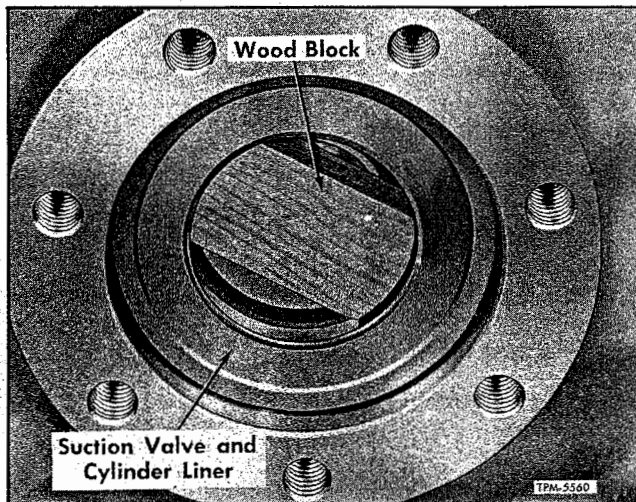

Figure 14—Removing Suction Valve and Cylinder Liner
1. Rotate the crankshaft until piston head is down about 2 inches from top, then place the wood block into cylinder. Rotate crankshaft to cause piston (17) to press block and cylinder liner (20) with suction valve from compressor bore (fig. 14). **IMPORTANT:** Do not bump piston against block, use an even pressure.